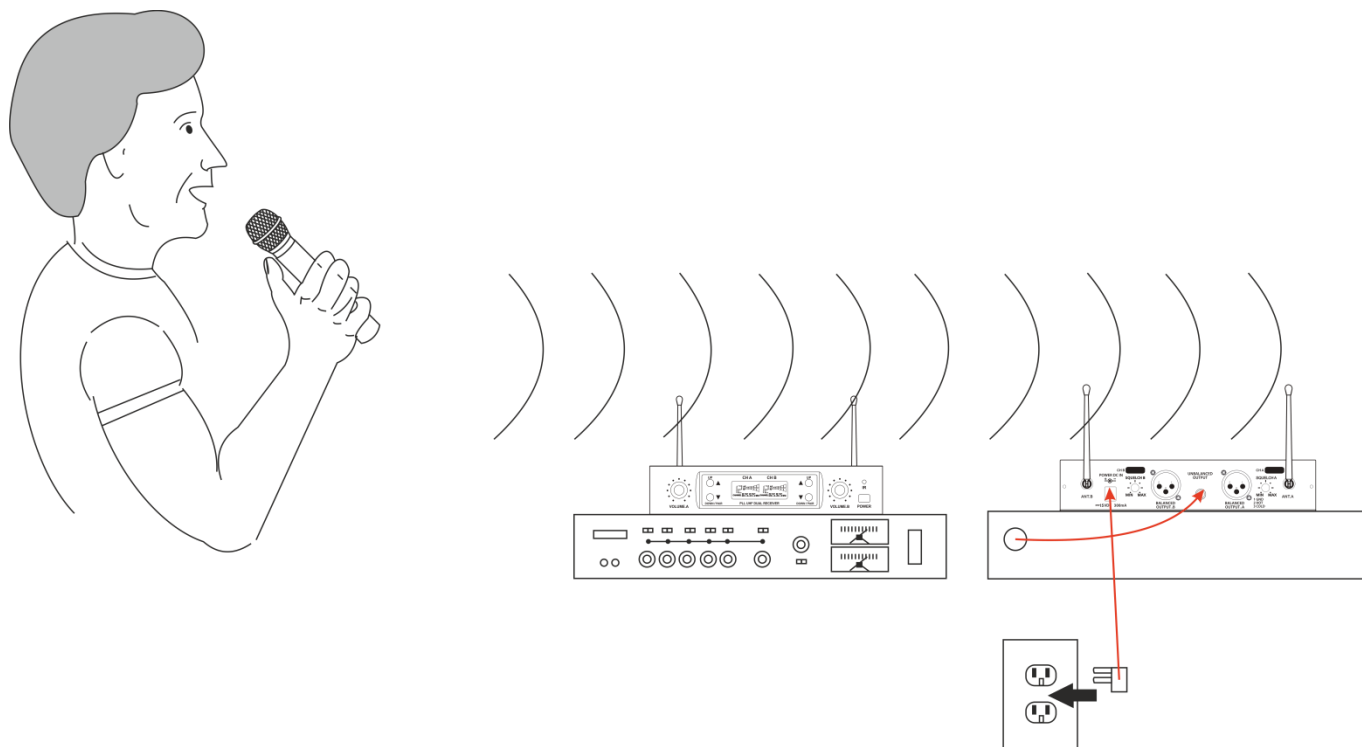

Fig. 04
- 01) Refer to Fig. 04. Connect the supplied power DC adapter into the **DC input Connector (08)** at the back of the COM-42. Plug the adapter into a wall socket or other power source.
- 02) Press and hold down the **Power switch (05)** on the front of the COM-42 for 4 seconds. The device is now switched ON.
- 04) Connect the COM-42's **XLR audio OUT (10, 12)** to the mixer input using an XLR to XLR audio cable or connect the COM-42's **1/4" jack audio connector OUT (11)** to your amplifier's input using a 1/4" phone plug cable.
- 05) Press and hold down the **Power/mute switch (16)** to switch the microphone ON.
- 06) Press the **UP/DOWN** buttons on the **display (02)** to choose the available channel. The adjustment range is between 00-99. If you press and hold down the **UP/DOWN** buttons for 8 seconds, you will skip to the previous/next channels without having to press the button each time.
- 09) Talk or sing into the microphone. The AF bar on the **display (02)** will increase and decrease as you keep talking/singing.
- 11) If the performance is over, turn off the sound system and slide the microphone's **Power/mute switch (16)** to the OFF position to save battery power.